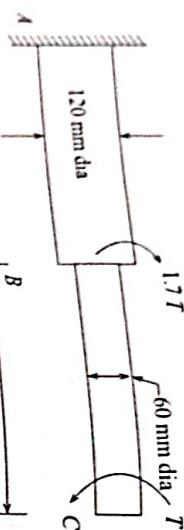

Figure 11.4
**EXAMPLE 11.11:** The stepped steel shaft shown in Fig. 11.4 is subjected to a torque  $T$  at free end and a Torque ( $l.77$ ) in the opposite direction at the junction of the two sizes.